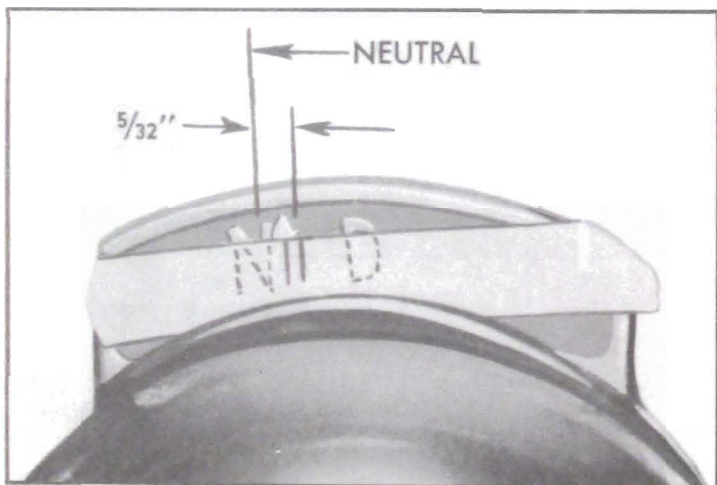

Figure 10-51—Pointer Position for Adjusting Neutral Safety Switch
(2) Have a helper hold shift control lever so that *right* edge of pointer is exactly midway between the marks on masking tape ($\frac{5}{32}$ " out of "N" position). See figure 10-51. Maintain lever in this position during the following adjustment of neutral safety switch.